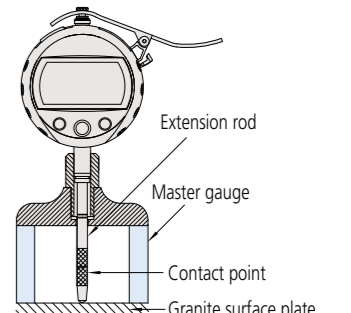

Fig. 3
6. Set up the reference point on a flatness-assured surface such as a precision surface plate. (Fig. 3)
7. When using extension rods, use a master gauge (or gauge blocks) to set up the reference point. (Fig. 3)